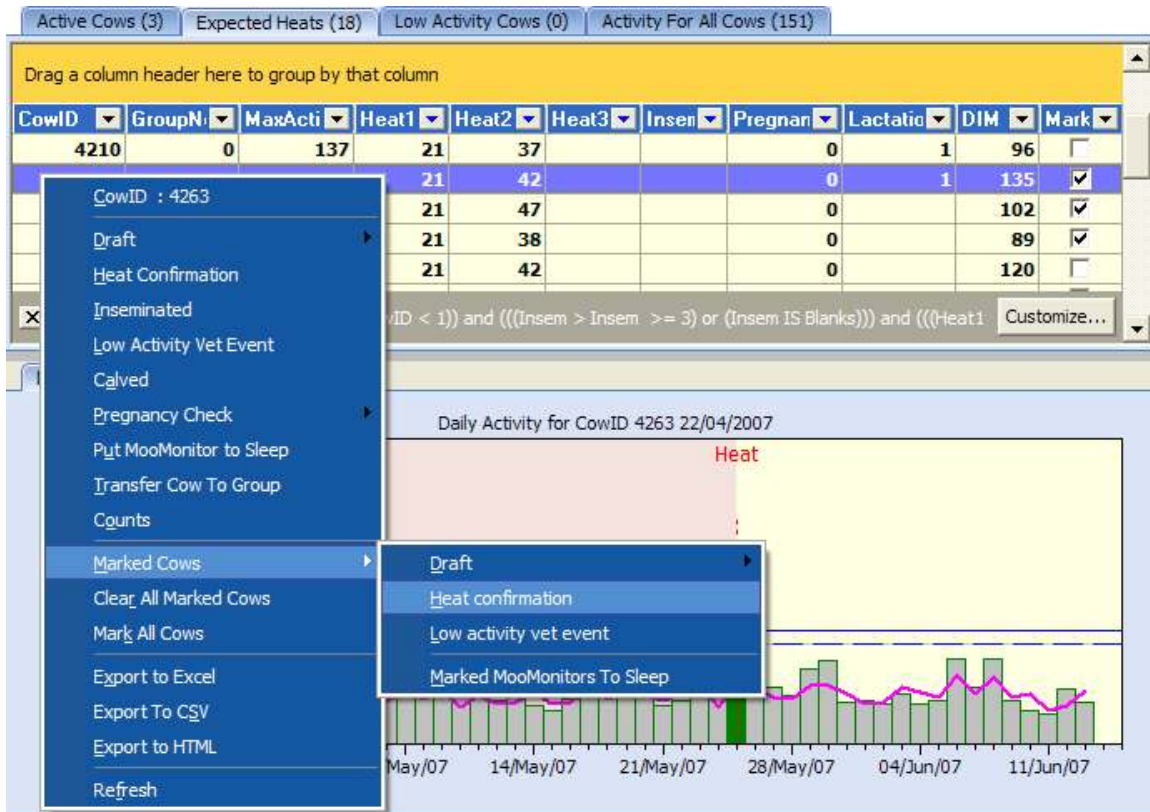

Figure 27 Right Click options.
- Right click on any CowID you have selected, go to the 'Marked Cows' option and then the 'Heat Confirmation' option as shown in Figure 27 on the next page.
- f. Right click on any of the CowID's you selected and select the 'Clear All Marked Cows', option, seen in Figure 27 above, to unselect the CowID's that you marked